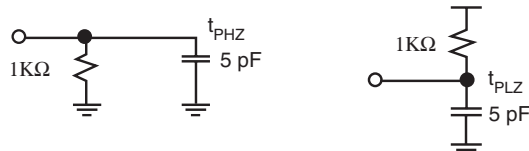

Figure 2: Loads used for t_{PXZ}
a. The following loads presented in **Figure 2** are used for t_{PXZ} :